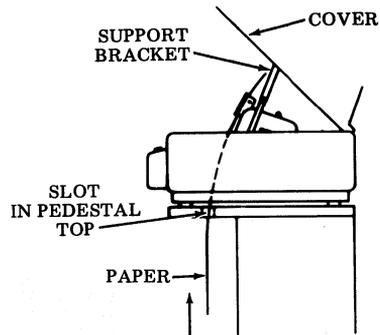

Fig. 56—Paper Routing
- (c) Feed paper up through printer, guide paper in back of ribbon and between upper paper guides (Fig. 56).